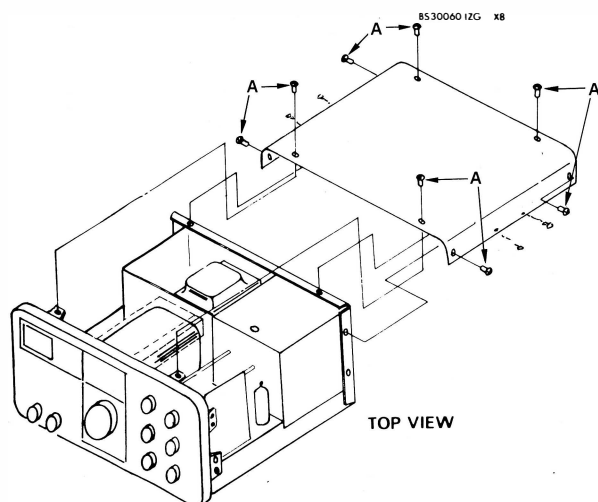

Figure 1
- (1) Remove the top cover of the transceiver case, as shown in Fig. 1.